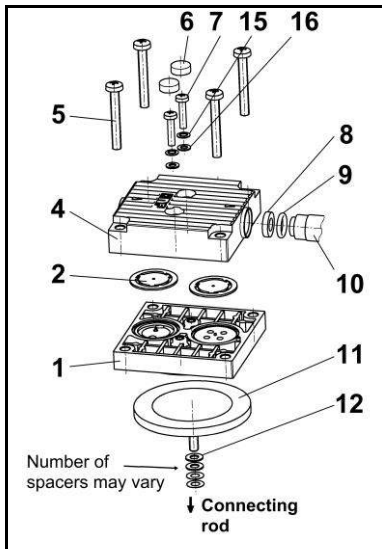

Fig. 10: Pump head
Put the sealing (fig. 10/8) into the head plate (4); push the connecting tube (10) into the hole in the head plate (4).